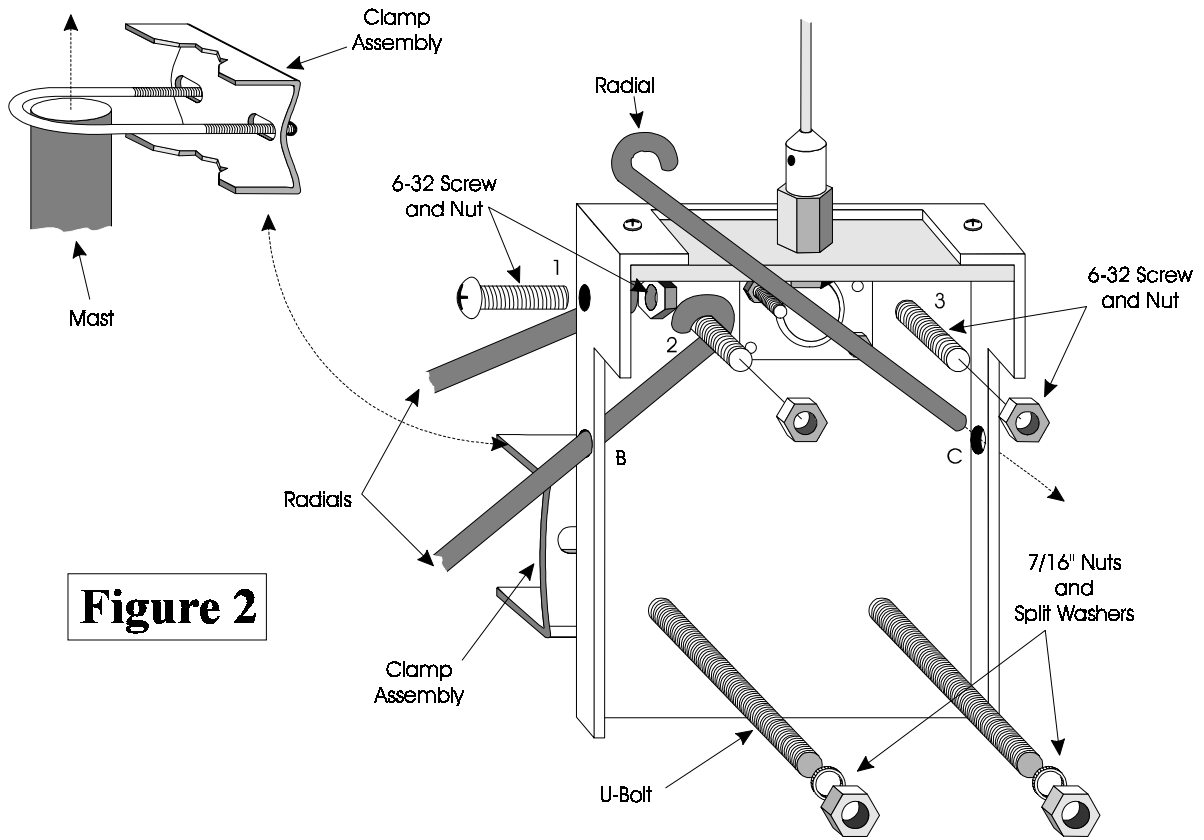

Figure 2
- 3- Insert a radial into hole A, straight end first (*see figure 2*). Sandwich the hooked end of radial between the chassis and the 3/8" nut of the screw in hole #1. Secure the radial by tightening the 6-32 screw .
- 5- Assemble the U-Clamp in the chassis as shown in figure 2.